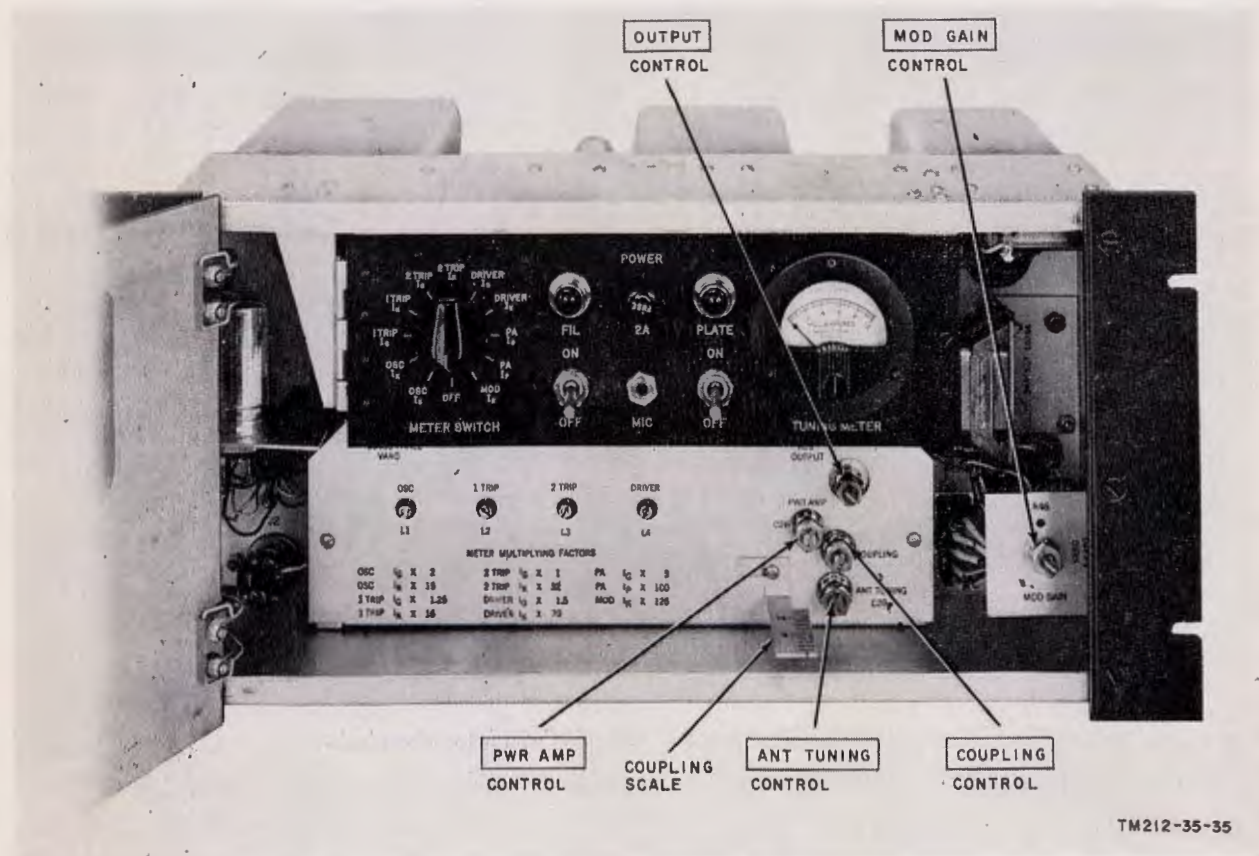

Figure 32. Radio Transmitter T-593(*)/TRC-47, controls.
(fig. 32)
a. Open the transmitter front panel door and rotate the OUTPUT control (fig. 32) completely counterclockwise.
b. Turn the METER SWITCH on the front panel (fig. 32) to PA_{IP}.
d. Rotate the OUTPUT control completely clockwise. Turn the PWR AMP control (fig. 32) until a *minimum* reading is obtained on the TUNING METER. Do not allow the reading to indicate more than .25 during this procedure. If the reading is higher than .25, loosen the coupling by turning the COUPLING control counterclockwise until the reading falls below the limit.
c. Place the ON-OFF switch on the converter front panel (fig. 12, TM 11-212-10) and the transmitter FIL switch (fig. 32) in the ON positions. Allow 5 minutes for the equipment to warm up and place the transmitter PLATE switch in the ON position.
e. Open the front panel door of the transmitter. Adjust the MOD GAIN control (fig. 32) until the pattern on Oscilloscope OS-8A/U indicates 100 per cent modulation of the RF carrier. (Refer to TM 11-665, C-w and A-m Radio Transmitters and Receivers, for information on the use of an oscilloscope to determine the percentage of modulation.)